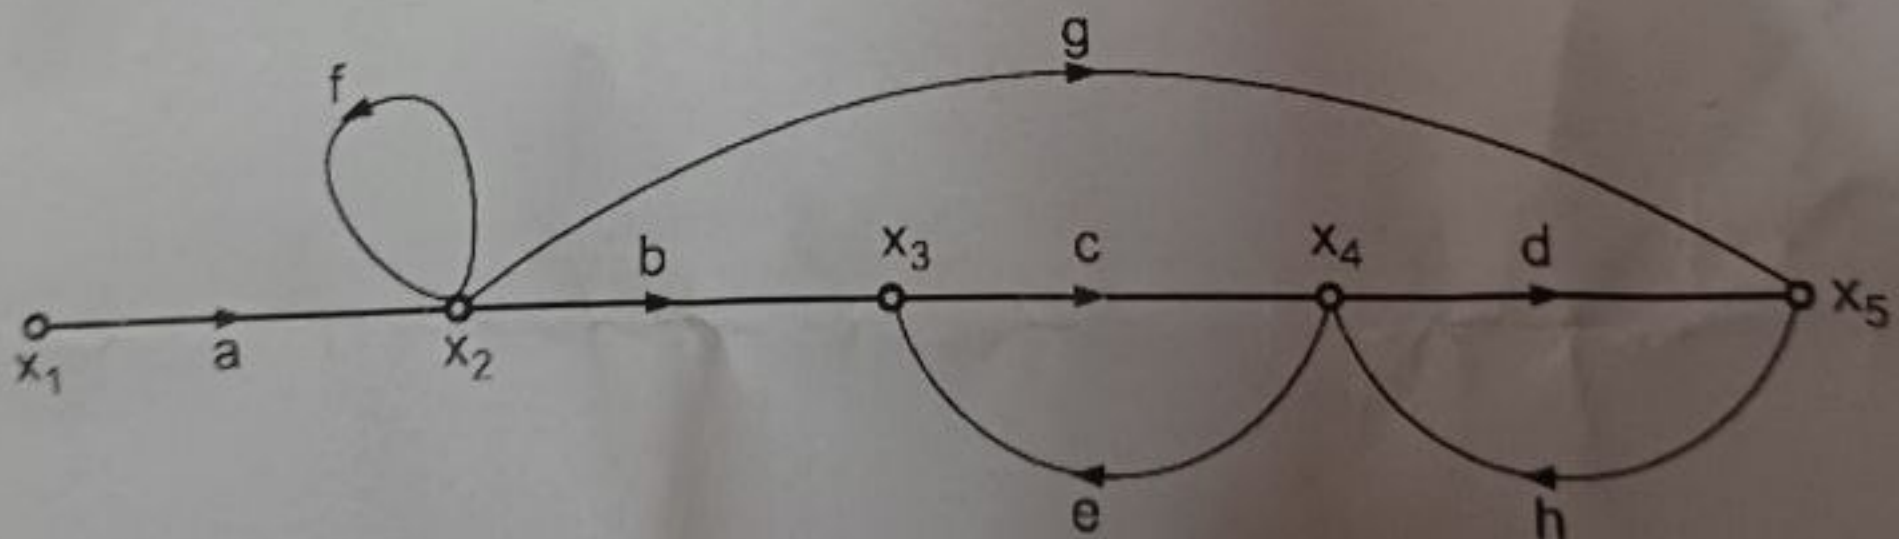

Figure 4
4. Determine the closed-loop transfer function $T(s) = X_5(s)/X_1(s)$ for the system of Figure 4. [10]